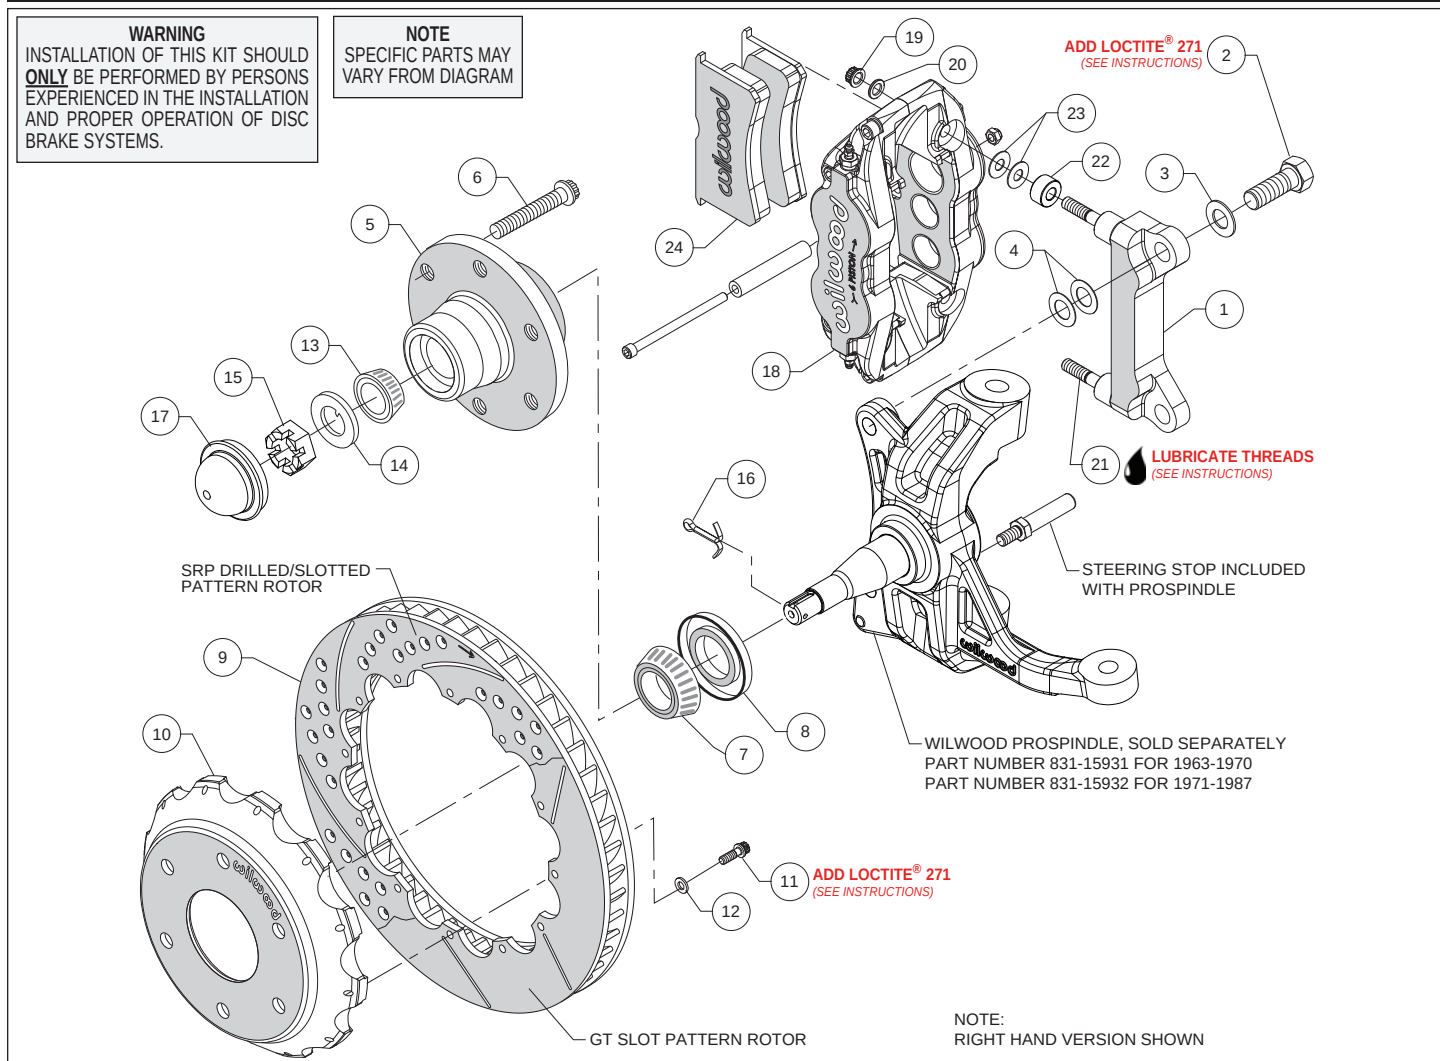
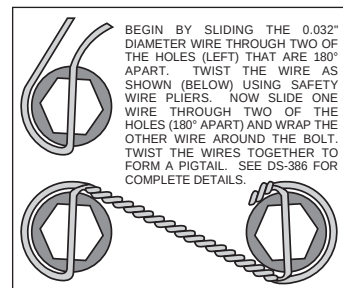

Figure 1. Typical Installation Configuration
Figure 3. Safety Wire Diagram
Assembly Instructions (numbers in parenthesis refer to the parts list and Figure 1 on the preceding pages):
- Install the steering stop bolt (included with the ProSpindle) into the spindle as shown in Figure 1 and Photo 1. Torque to 25 ft-lbs.
- The caliper mount bracket (1) should initially be installed with clean, dry threads on the mounting bolts. Orient the bracket, as shown in Figure 1 and Photo 2, and install using bolts (2) and washers (3). Initially place two .024" thick shim (4) on each bolt between the bracket and spindle, Figure 1. Temporarily tighten the mounting bolts. **NOTE:** The bracket must fit squarely against the mount bosses on the spindle. Inspect for interference from casting irregularities, machining ridges, burrs, etc. Later, after the caliper alignment has been checked, the mount bolts will be secured using red *Loctite*® 271.
- Press the dust cap (17) into the hub (5). **NOTE:** Do not hammer center of cap. Install using outer flange only.
- Orient the rotor (9) and the hat (10) as shown in Figure 1 and Photo 7. Attach rotor to hat using bolts (11) and washers (12). Using an alternating sequence, apply red *Loctite*® 271 to the threads, and torque to 155 in-lbs. For an added measure of security, the bolts may be safety wired using standard 0.032 inch diameter stainless steel safety wire as shown in Figure 3. Refer to Wilwood's data sheet DS-386 (available at www.wilwood.com/Pdf/DataSheets/ds386.pdf) for complete safety wire installation instructions.
- Slide the hat/rotor assembly (10 and 9) onto the hub (5), Photo 8. **NOTE:** The hat must fit flush against the hub face or excessive rotor run out may result. Install three lug nuts (finger tight) to keep the hat/rotor assembly in place while continuing with the installation, Photo 8.
- **NOTE:** This kit contains distinct right and left hand calipers that must be mounted in a specific direction, as described below. Lubricate the caliper mounting studs (21) with lightweight oil. Initially place two .035" thick shims (23) and one spacer (22) on each stud between the caliper and the bracket, as shown in Figure 1 and Photo 9. Mount the caliper (18) onto the bracket (1) using lock nuts (19) and washers (20), Figure 1. Temporarily